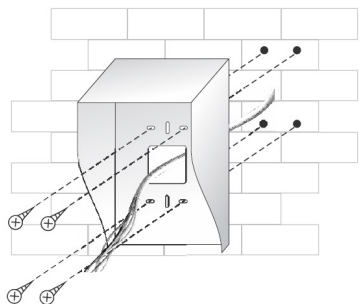

fig. 3
The outdoor unit is factory adapted for surface mounting, on the wall. Fig. 3 and 4 present the installation process.
2. With 4 holes in the bottom of the protective roof, uncheck on the wall the places for mounting pins (fig. 3).
3. In the marked places, drill 4 mounting holes and place there 4 fixing pins (fig. 3).
4. Using 4 mounting screws, secure the rain cover to the wall (fig. 3).
3. With 4 holes in the bottom of the mounting box, uncheck on the wall the places for mounting pins (fig. 3).
4. In the marked places, drill 4 mounting holes and place there 4 fixing pins (fig. 3).
5. Using 4 mounting screws, secure the mounting box (fig. 3).